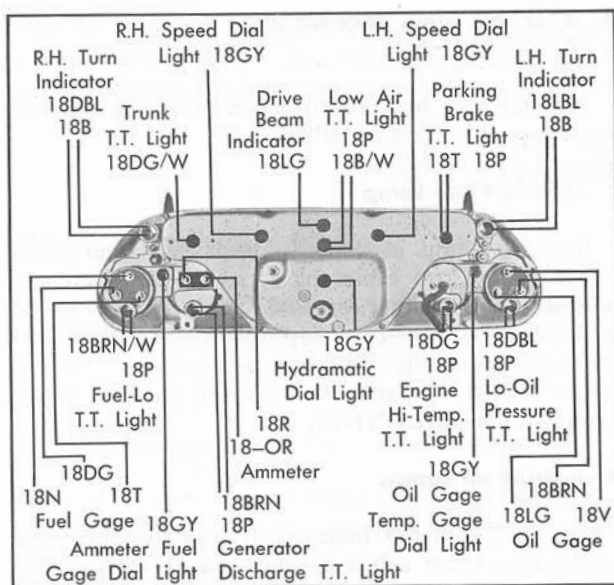

Fig. 12-15 Cluster Wiring
Remove instrument bulbs by pulling sockets and bulbs out of the holes in the back of the cluster, Fig. 12-15.
5. Install bulbs in rear of cluster assembly, being careful to get bulbs in the correct holes, Fig. 12-15.